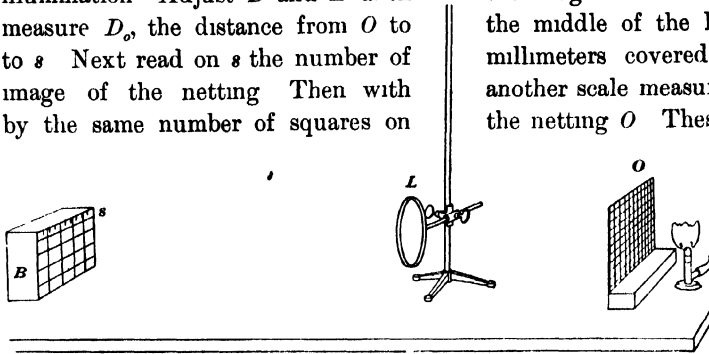

FIG 91
I. Set up in the positions shown in Fig 91 a wire netting  $O$ , a reading glass  $L$  of about 15 cm. focus, and a block  $B$  provided with a paper scale  $s$ . Set a gas flame behind  $O$  to insure bright illumination. Adjust  $B$  and  $L$  until the image of the netting is sharply outlined on  $s$ . Then measure  $D_o$ , the distance from  $O$  to the middle of the lens  $L$ , and  $D_i$ , the distance from  $L$  to  $s$ . Next read on  $s$  the number of millimeters covered by ten or twenty squares in the image of the netting. Then with another scale measure the number of millimeters covered by the same number of squares on